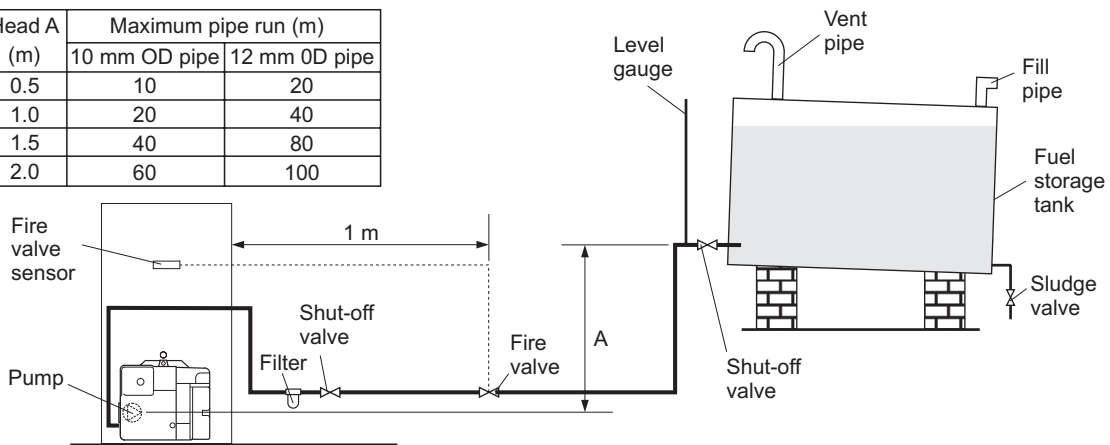

Fig. 2 - Single pipe system
- 5 A flexible fuel hose, adaptor and $\frac{1}{4}$ " BSP isolation valve are supplied loose with the boiler for the final connection to the burner. If a two pipe system or 'Tiger Loop' type de-aerator is used, an additional flexible fuel hose (600 mm) and $\frac{3}{8}$ " to $\frac{1}{4}$ " BSP male adaptor are available to purchase from Grant Engineering (UK) Limited, Part No. RBS104.
4.4.3 Single pipe system - (See Fig. 2)